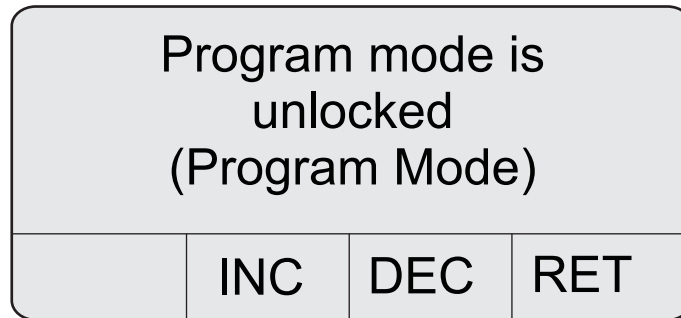

Figure 8 Program mode status screen
2. Press 3 (BAK) to display the Program mode status screen (refer to Figure 8).